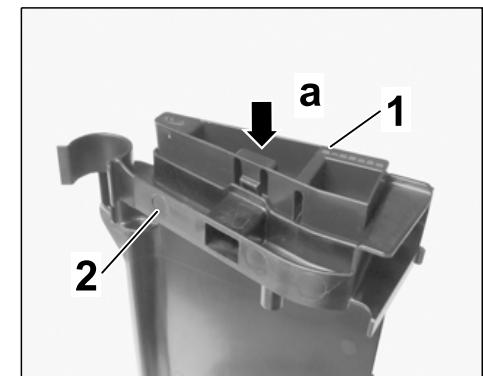

Figure 7
- 3.1.1 Clip cover at the left/right  $\Rightarrow$  Figure 7-1- into retaining frame  $\Rightarrow$  Figure 7-2- ( $\Rightarrow$  Figure 7-a-).